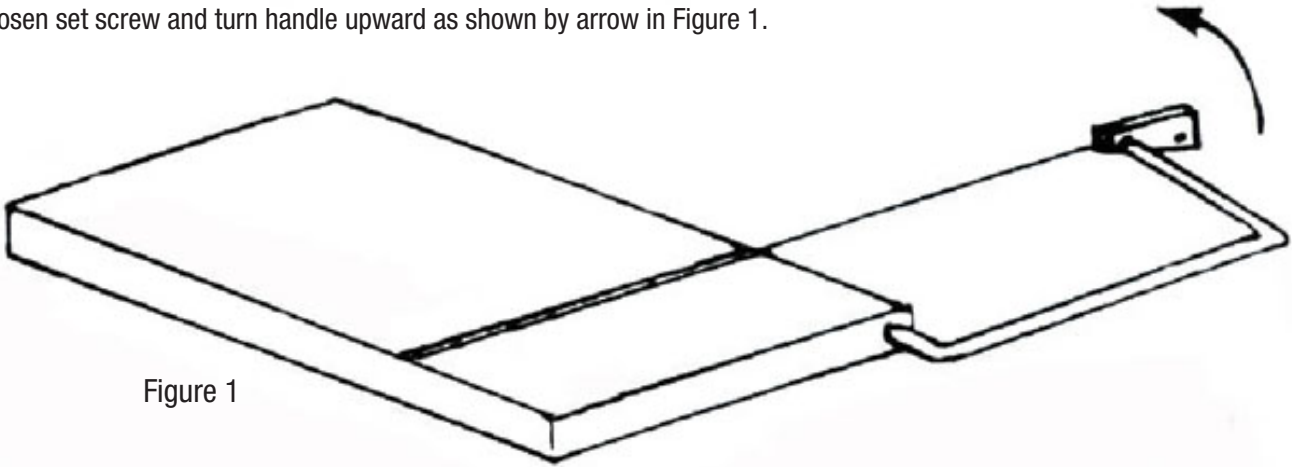

Figure 1
- 1 Position slicer on flat surface as shown in Figure 1.
- 2 Loosen set screw and turn handle upward as shown by arrow in Figure 1.